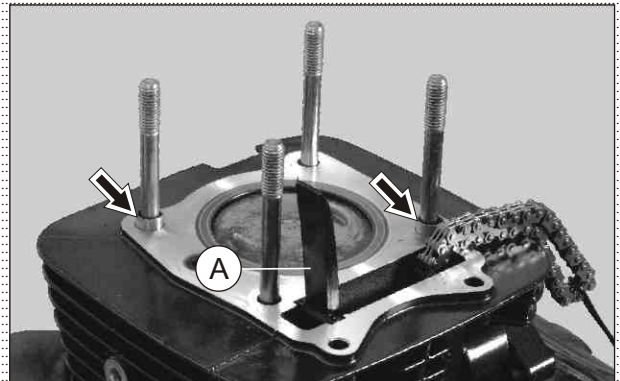

Fig. 3.84
- Remove guide cam chain (A) from the cylinder complete. (Fig. 3.84)